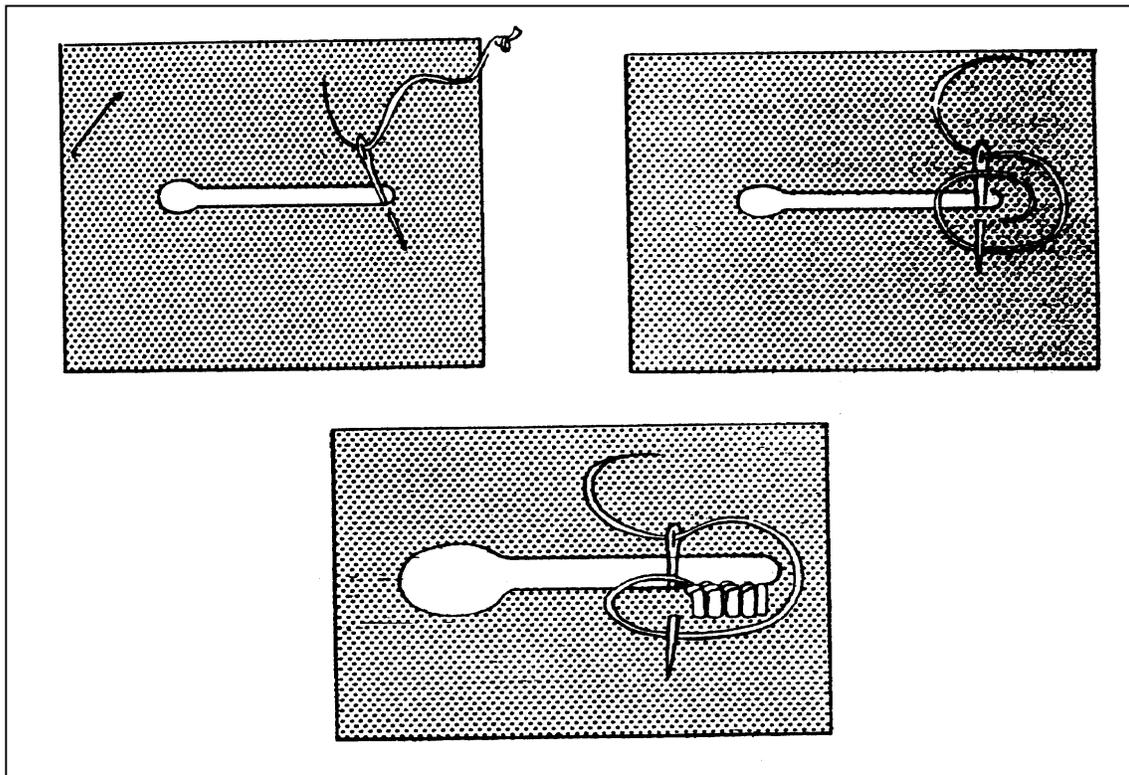

Figure 2-9. Buttonhole stitch
f. Buttonhole Stitch. The buttonhole stitch (Figure 2-9) is used to finish and reinforce the raw edges of buttonholes and eyelets. To make a row of buttonhole stitches--
- (1) Stick the needle up through the cloth 1/16 to 1/8 inch away from on edge of the buttonhole.
(2) Loop the thread in a circle.
(3) Stick the tip of the needle down through the circle and through the slash of the buttonhole.
(4) Stick the tip of the needle up through the cloth as close as possible to the last point where the needle came up. At the same time, take care to bring the needle up through the circle of thread.
(5) Draw up the needle and thread carefully so that a purl (a small, tight loop) forms on the edge of the slash.
(6) Repeat the stitch around the outside of the buttonhole. Keep the stitches close and even. Keep the purl on the edge of the slash.